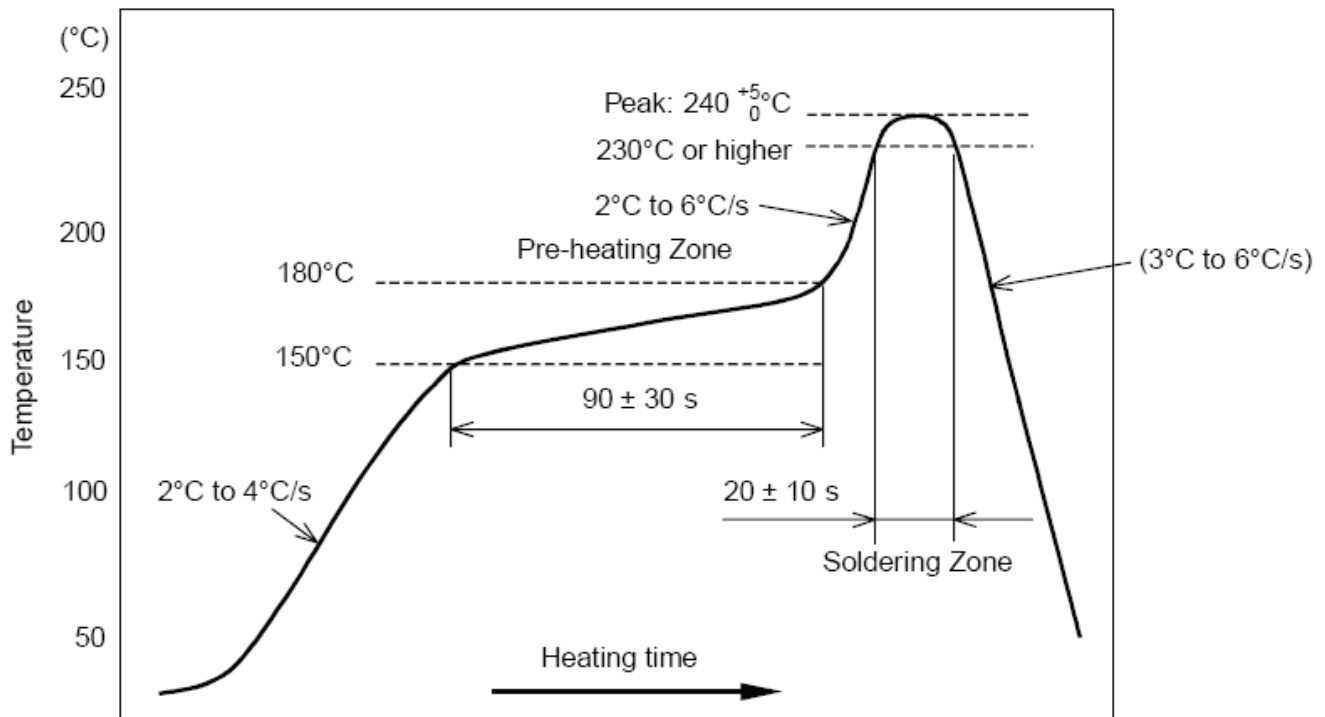

Figure 11-1. Temperature Profile for Evaluation of Solder Heat Resistance of a Component (at Solder Joint)
- Temperature measurement: Thermocouple  $d = 0.1 \text{ mm}$  to  $0.2 \text{ mm}$  CA (K) or CC (T) at soldering portion or equivalent method
- Allowable reflow soldering times: 2 times based on the reflow soldering profile (see Figure 11-1)
- Temperature profile: Reflow soldering will be done according to the temperature profile (see Figure 11-1)